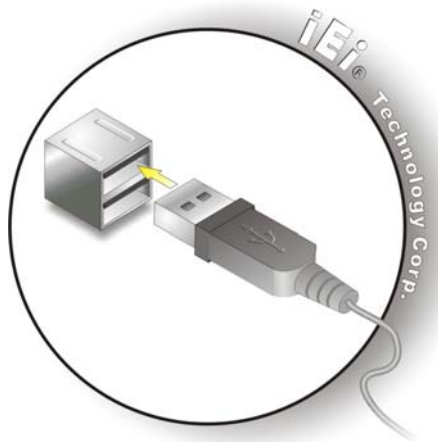

Figure 2-10: USB Device Connection
Step 2: Align the connectors. Align the USB device connector with one of the connectors on the bottom panel. See **Figure 2-10**.